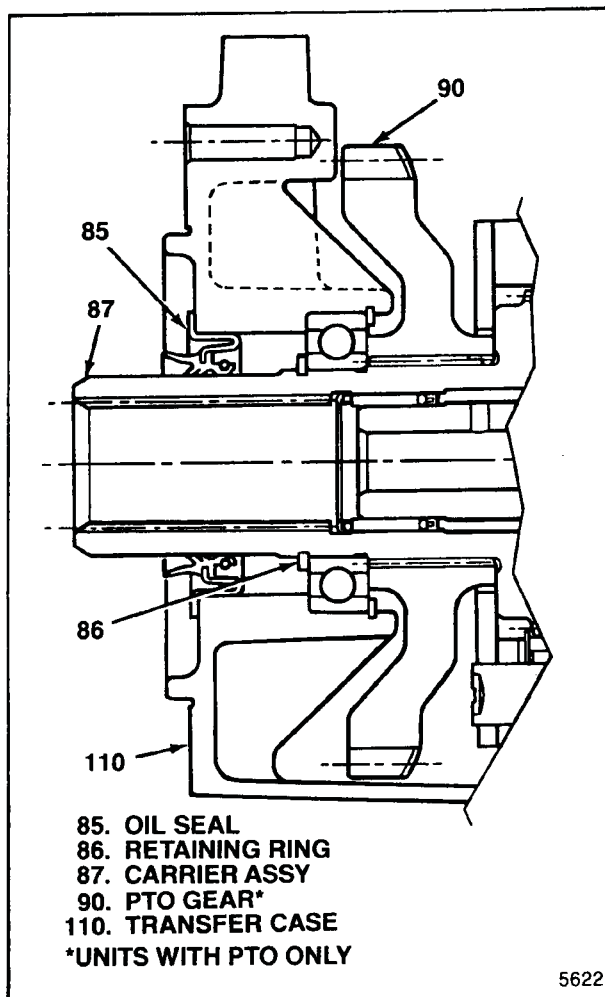

Figure 5-5. Oil Seal and PTO Gear Position
- a. Install ring gear (89) in transfer case (110), lug end of gear last. Engage gear lugs with case notches and install retaining ring (88).
- b. For units with PTO, align splines and install PTO gear (90) on input shaft of carrier assembly (87). Position gear with respect to carrier assembly as shown in figure 5-5.
- c. Position carrier assembly (87), with installed PTO gear (90) if used, in transfer case (110) and install retaining ring (86) in groove in input shaft of carrier assembly.
- d. Position oil seal (85) as shown in figure 5-5 and press into transfer case (110) until seal flange seats on case.